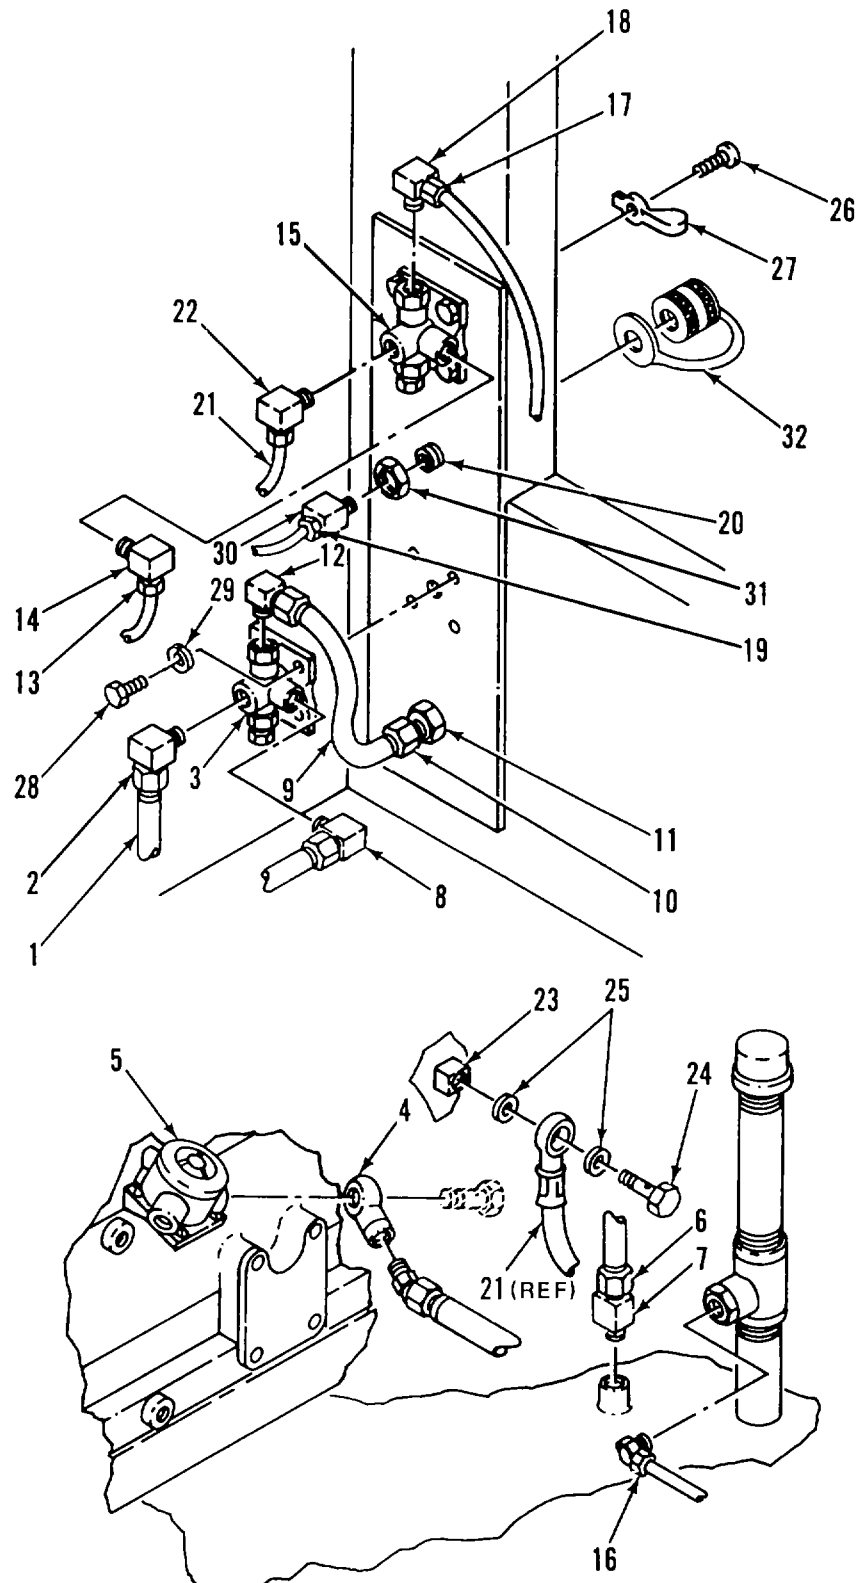

Figure 2-25. Fuel Valves and Lines
a. REMOVE. (Figure 2-25)
(1) Disconnect fuel lines as follows: